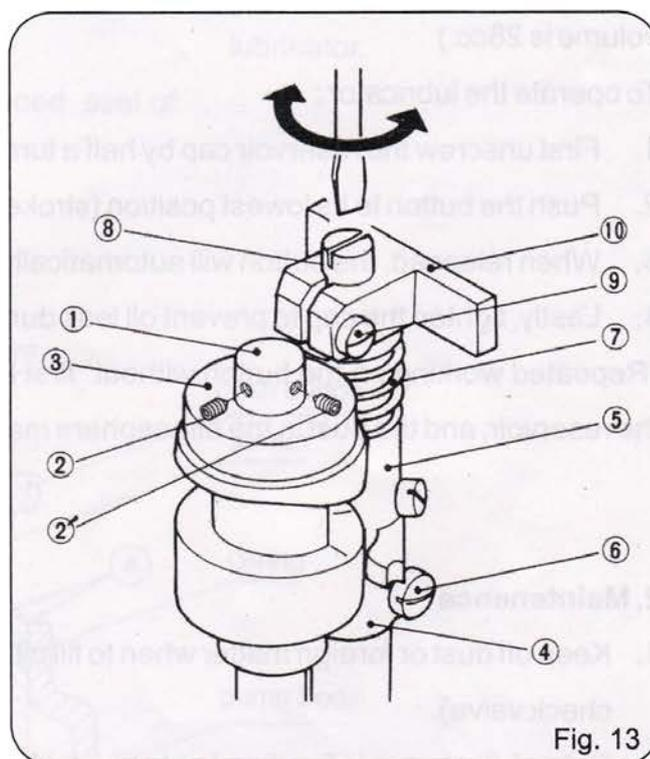

Fig. 13
Adjust Looper Drive Cam ③ when necessary as follows : (Refer to Fig. 13.).
- a) Apply the Screw ② and ② on the taper of Main Shaft ① .
- b) Adjust Arm (B) ④ , so that Looper Drive Cam ③ and Arm (A) ⑤ move smoothly . After adjusting, fix the Screw ⑥ tightly.
- c) The clearance between Looper Drive Cam ③ and Arm ⑤ is effected by Spring ⑦ Loosen Screw ⑨ and turn Spring Supporter ⑧ to adjust the pressure of Spring ⑦ After adjusting, tighten the Screw ⑨ to fasten Spring Supporter ⑧
- 2 ② Screw P28524
- 4 Looper Rocker Shaft Arm (B) P243081
- 5 Looper Rocker Shaft Arm (A) P243071
- 6 Screw for Looper Rocker Shaft Arm (B) P40009